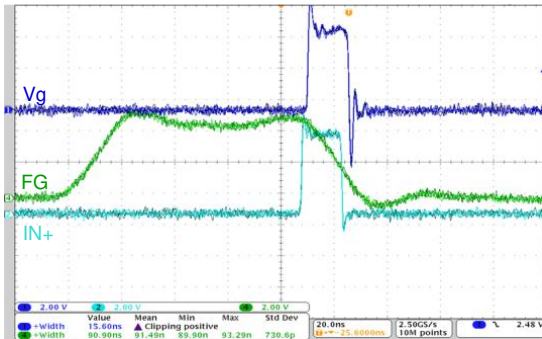
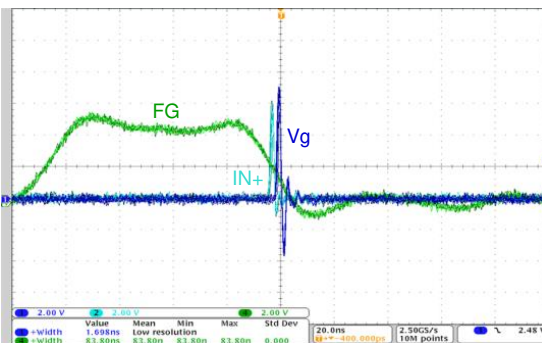
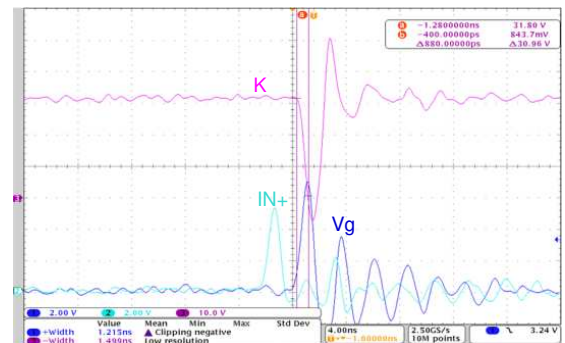

Figure 9. 90-ns Pulse from Function Generator Yielding 15-ns Pulse on the Gate
Figure 11. 84-ns Pulse from Function Generator Yielding 1.5-ns Pulse on the Gate
Figure 12. 1.2-ns Gate Pulse Yielding 1.5 ns, 30 V into 1-Ω Pulse (500-MHz Scope)
Figure 9 through Figure 12 present typical performance curves for LMG1020EVM-006.
Figure 9 through Figure 11 show how the input stage performs and how the buffer cleans up and shortens the input pulse. This allows the use of a function generator with lower specifications.
Figure 12, taken with a 500MHz oscilloscope, shows typical operation waveforms. On the (K) waveform it is possible to see a 20V overshoot, this is due to the inductance in the power loop. Vg seems to be oscillating, but this is caused by pickup noise, which is inevitable even when using a spring ground connection. The expected resonant frequency for the gate loop is ~70-90MHz (given Gate capacitance of ~10nF and Gate inductance of 3-5nH), the oscillation observed is at 250MHz, which would imply a gate loop inductance of ~40pH. This is therefore pickup noise.